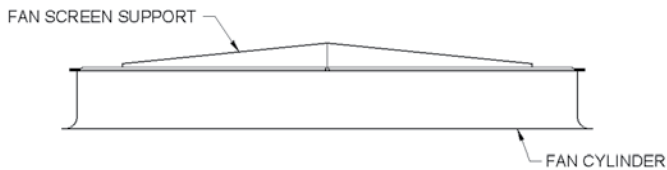

Figure 19 - Support Frame Installation.
1. Set the support frame across the top of the discharge cylinder. (See Figure 19).